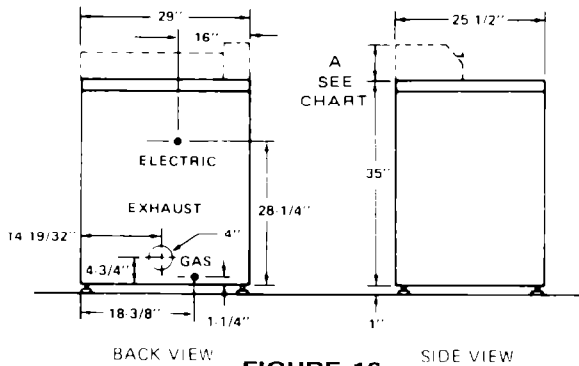

FIGURE 16
- Exhaust outlet at rear of the dryer is located as shown in (Figure 16). Detailed instructions on spacing for side and rear clearances can be found in the section "Instructions for Recessed or Closet Installation." Information on minimum spacing side to side and to the rear is also found on a label located on back panel.